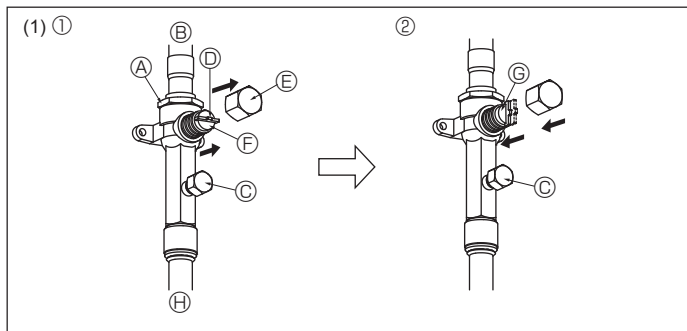
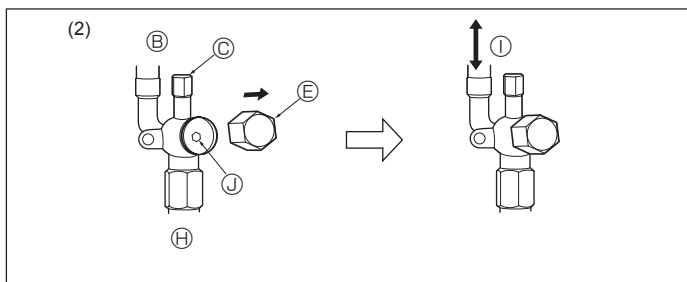

Fig. 4-7
Fig. 4-8
(1) Gas side (Fig. 4-7)
① Remove the cap, pull the handle toward you and rotate 1/4 turn in a counterclockwise direction to open.
② Make sure that the stop valve is open completely, push in the handle and rotate the cap back to its original position.
(2) Liquid side (Fig. 4-8)
① Remove the cap and turn the valve rod counterclockwise as far as it will go with the use of a 4 mm [3/16"] hexagonal wrench. Stop turning when it hits the stopper.
② Make sure that the stop valve is open completely and rotate the cap back to its original position.